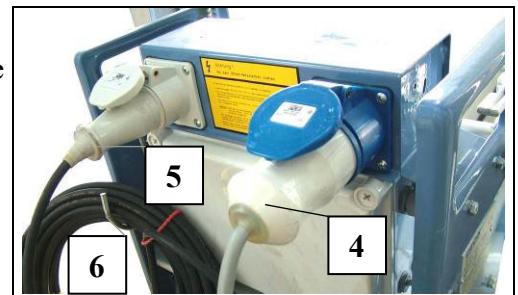

Fig. 33 Plug panel on the winch
- Carefully roll up the excess cable and hang on the hook (Fig. 33 Pos 6). - Otherwise it presents a hazard from catching on something or from the cable being damaged.
- Hang rope (1) on the rope winch out of the spring loop (2).
- Press DOWN button on the control cylinder. - Unwind enough rope; keep rope tight so that the slack rope switch (3) remains in its operating position.